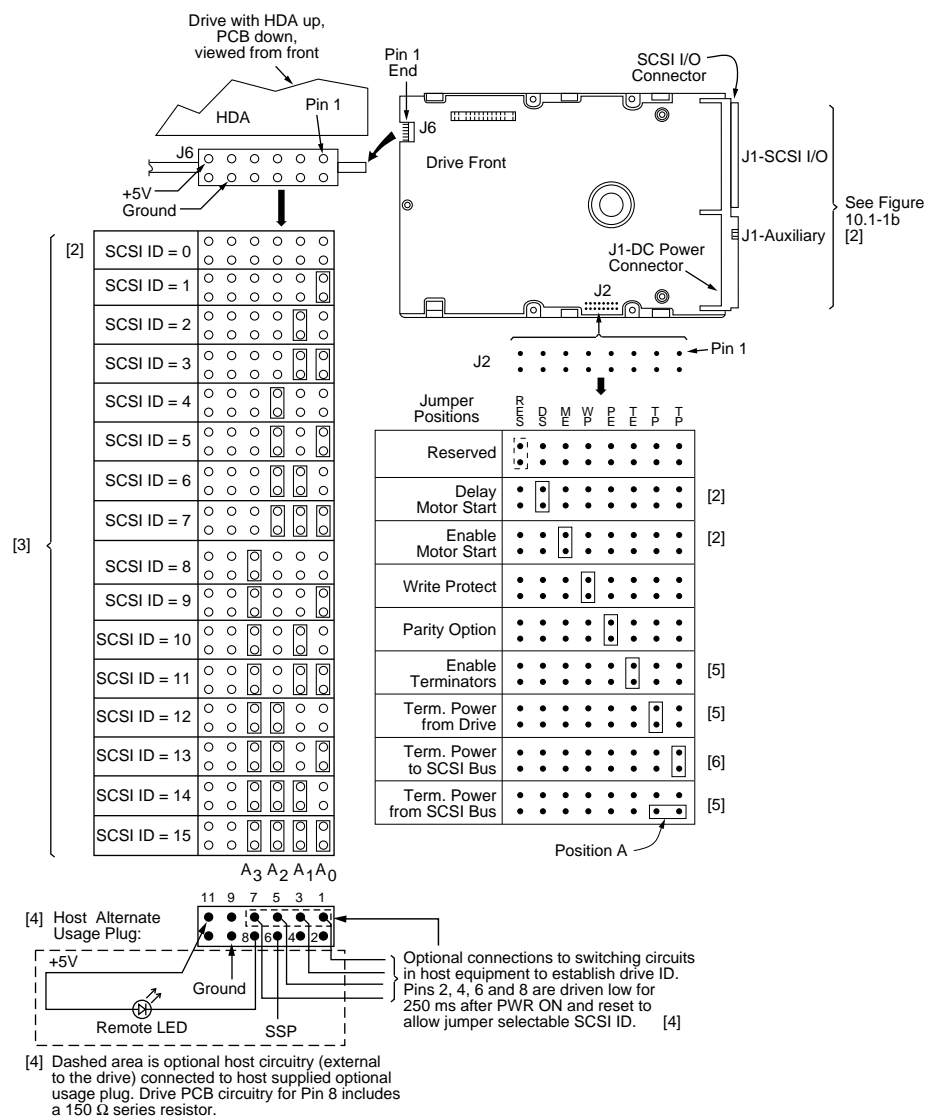
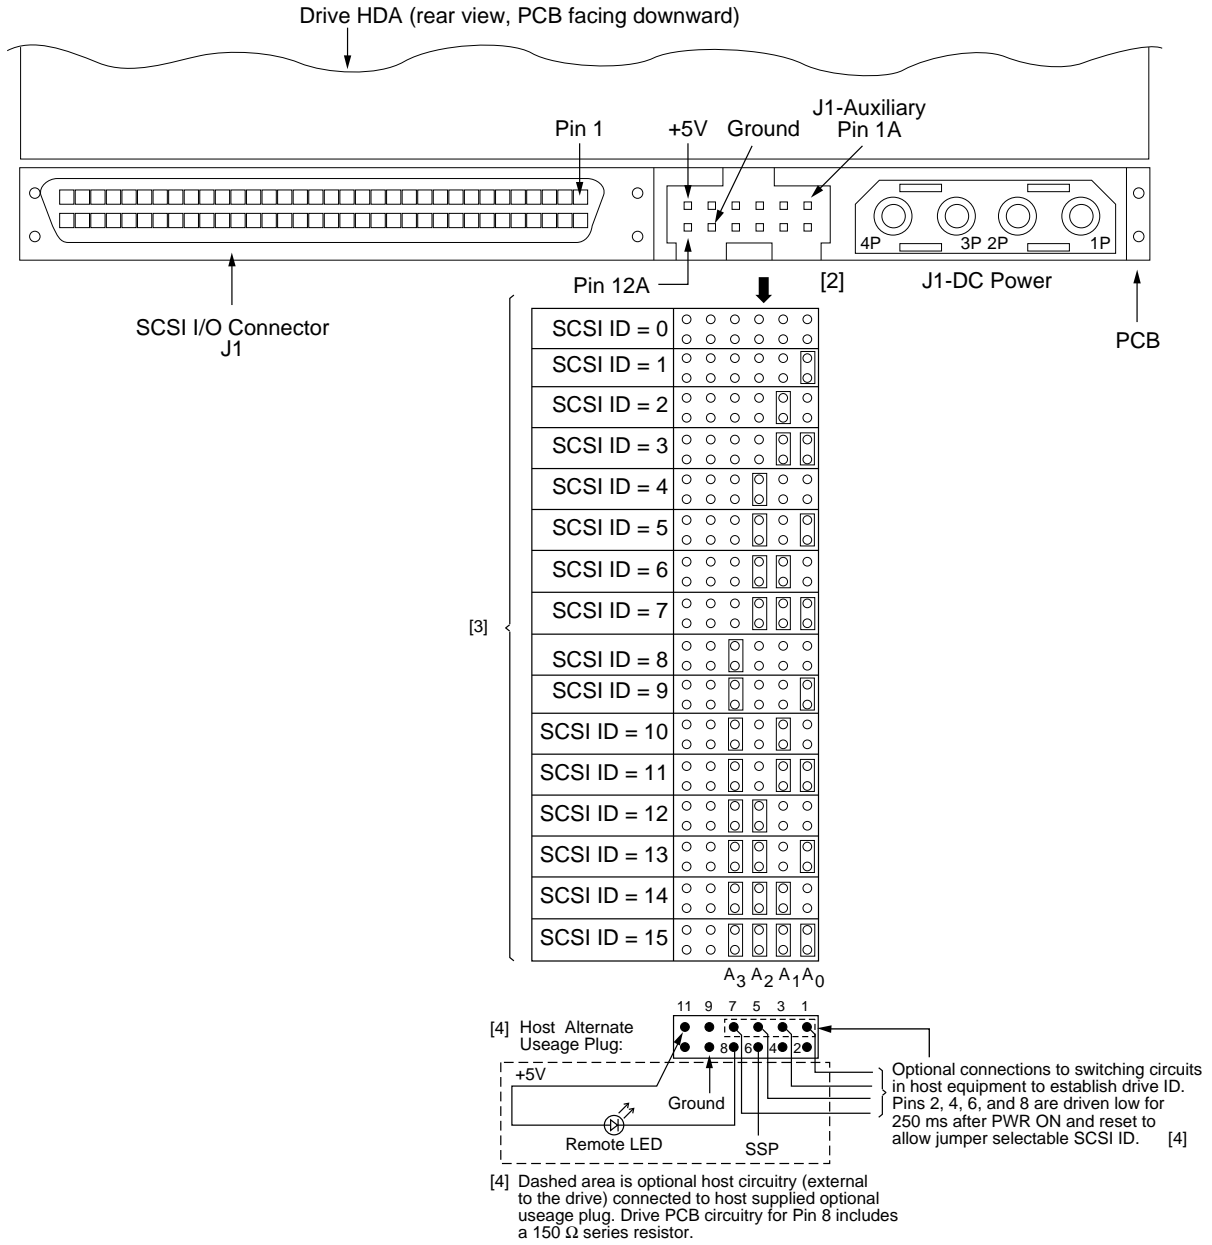
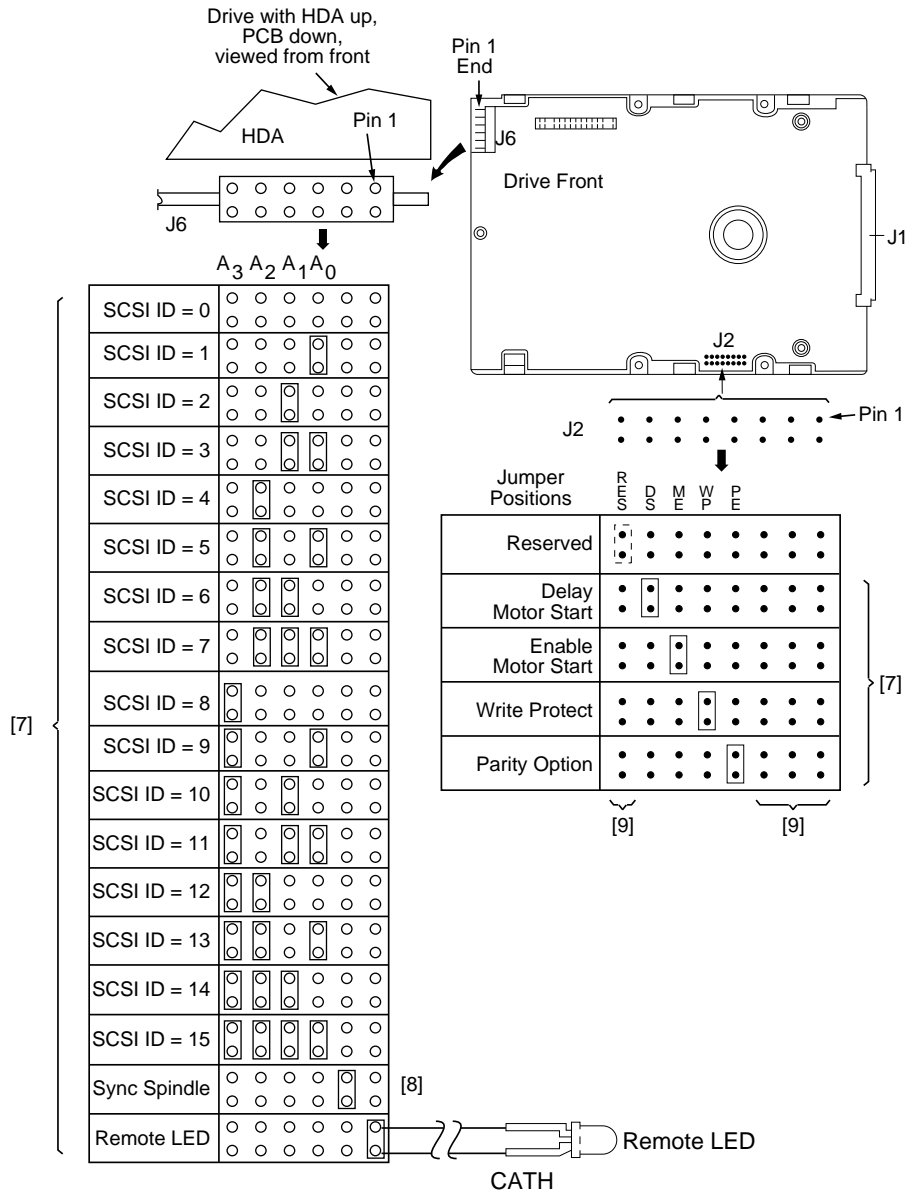

Figure 10.1-1a. ST12400W/WD family drive ID and option select header (Front and side header details)
Figure 10.1-1b. ST12400W/WD family drive ID and option select header (Rear header details) (J1-auxiliary pins 1A-12A)
Figure 10.1-1c. ST12400WC family drive ID and option select header (front and side header details)
Figure 10.1-1a shows a bottom view of the drive (PCB toward viewer) for the purpose of showing the drive ID and configuration option select jumper connectors for models ST12400W/WD. Figure 10.1-1c shows the jumper connectors for model ST12400WC. Figure 10.1-1b shows a rear view of the ST12400W/WD model drive for the purpose of showing J1-auxiliary which has a duplicate pin configuration and purpose of J6 (Figure 10.1-1a) on the rear of the drive. Both J1-auxiliary and J6 have pins for selecting drive ID and for connecting the synchronized spindle cable and the remote LED cable. Only one or the other should be used, although using both at the same time would not damage the drive. The notes ([1]-[9]) following the figures describe the functions of the various jumper positions on the three connectors J2, J1-auxiliary and J6. Suggested part number for the unusual J2 jumper is Molex 52747-0211 (Seagate P/N 77679052).
Notes for Figure 10.1-1a, 10.1-1b and 10.1-1c:
- [3] Either jumper plugs in one of the patterns shown or external circuitry can be used to establish Drive ID. The drive uses headers J6 or J1-auxiliary for drive ID determination only during a 250 ms initialization period following power-on or after a drive reset. During this initialization period, the drive control logic connects pins 2, 4, 6 and 8 to ground and checks the logic state of pins 1, 3, 5 and 7. A ground on a pin 1, 3, 5, 7 indicates an asserted low state, while an open circuit, high impedance or +5 V indicates a negated high state. The drive user can install jumper plugs to connect pins 2, 4, 6 and 8 to pins 1, 3, 5 and 7, respectively, in the desired ID pattern. See figures 10.1-1a and 10.1-1b. The drive only connects ground to pins 2, 4, 6 and 8 during the 250 ms initialization period. The user may install a cable on J6 or J1-auxiliary in order to connect the drive ID pattern to pins 1, 3, 5 and 7 through some external switching circuit. The drive ID should be applied for at least the 250 ms period. During the remaining operational time of the drive, the drive does not poll pins 1, 3, 5 and 7 for drive ID, unless a reset occurs. See Note [4] for information on the use of pins 2, 4, 6 and 8 during non-initialization periods.